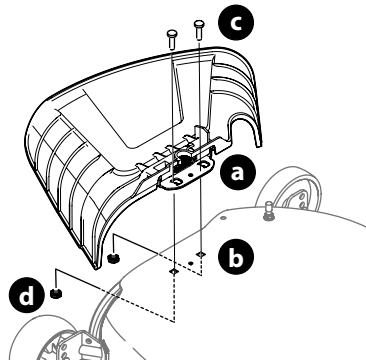

Figure 8
3. Using two carriage bolts (c) and two flange nuts (d), secure the chute deflector to the deck (Figure 8). Tighten to 170-200 in-lbs (18.5-23 N-m) (Figure 8). Skip ahead to Setting Deck Wheels.